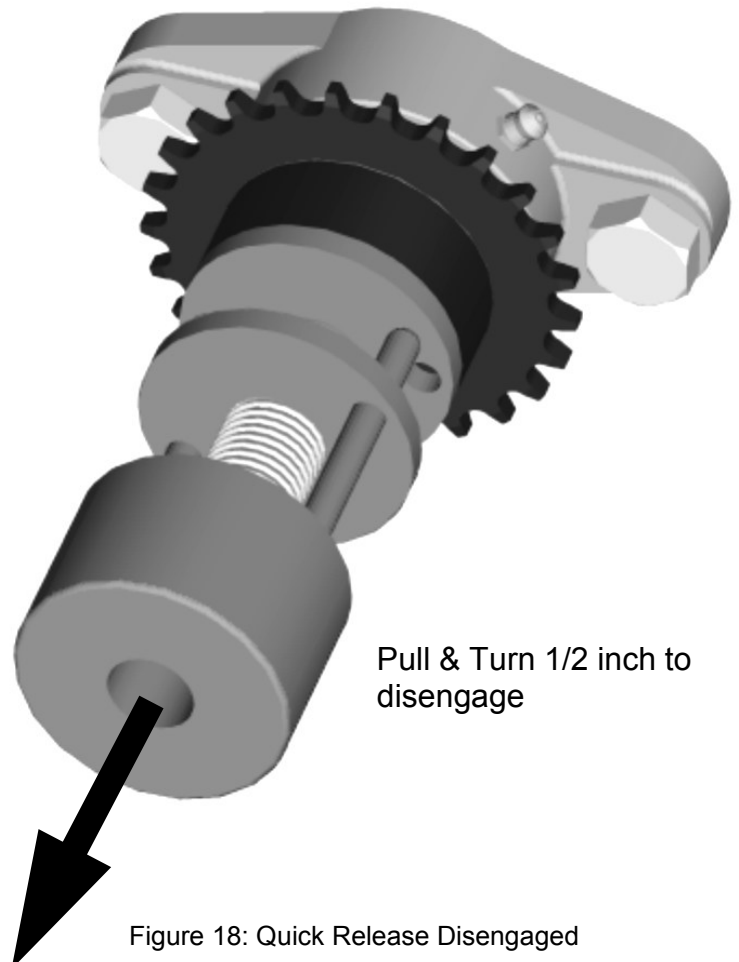

Figure 18: Quick Release Disengaged
2. Using the MANUAL RELEASE, disengage the drive motor if this is not already accomplished as shown in Figure 18 (Below).